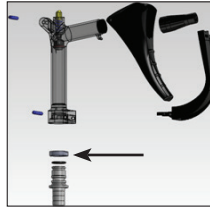

Figure 8
6. Remove the nozzle retaining ring (Figure 8).